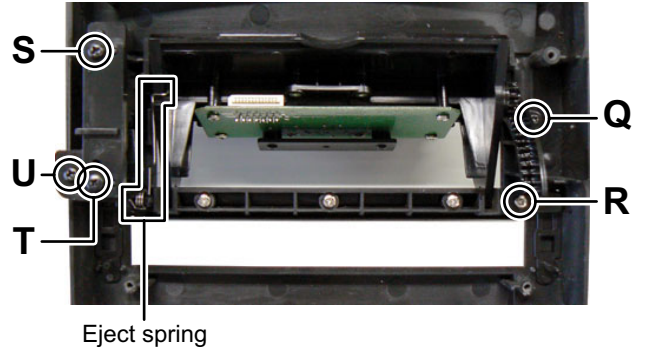

Fig.17
3.1.10 Removing the iPod board (See Fig.17, 18)
- (1) Remove the iPod door cover.
- (2) Remove the Eject spring. (See Fig.17)
- (3) Remove the one screw **Q** and one screw **R** attaching the Cassette lid latch. (See Fig.17)
- (4) Remove the one screw **S** attaching the Cassette cam bracket. (See Fig.17)
- (5) Remove the one screw **T** and one screw **U** attaching the iPod door bracket. (See Fig.17)